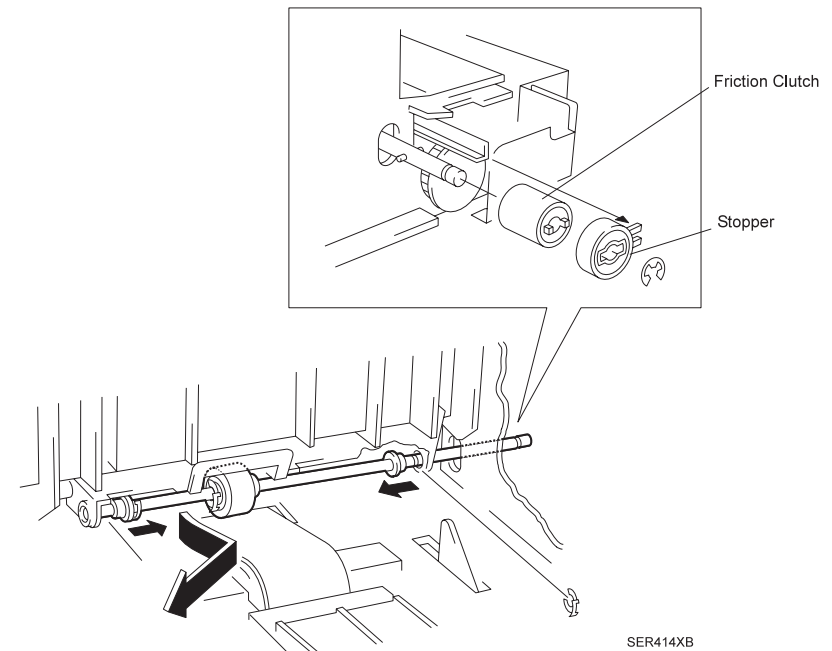

Figure 4-13. Clutch and Stopper
8. Slide the Retard Shaft out of the Feeder (Figure 4-13).
5. Reinstall the Shaft into the Feeder (Figure 4-13), and use a KL clip to secure the Shaft.
6. Slide the Clutch Stopper and Friction Clutch onto the Retard Shaft (Figure 4-13).